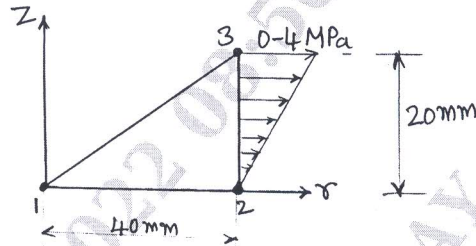

Fig.Q9(b)
- b. Evaluate the Nodal forces used to replace the linearly varying surface traction shown in Fig.Q9(b).